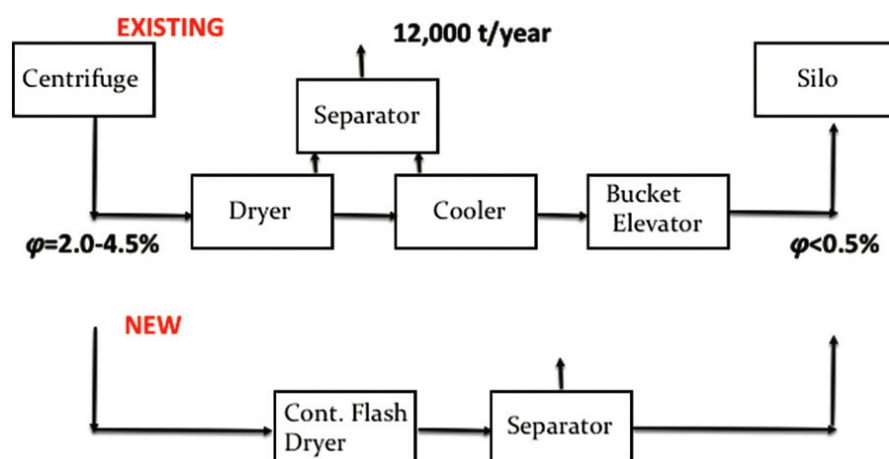

Figure 11: Process simplification for drying of Sulfate crystals with continuous LP flash dryer
**Process simplification:** With the continuous LP flash drying technology an effective process simplification can be realized. As an example, the drying of sulfate crystals is shown. In an existing production process 12,000 tn/year dry sulfate crystals (1-2 mm) were produced in a 24/7 operation. The mechanical solid-liquid-separation was done in a centrifuge and the drying in fluidized bed dryers. Because the product was becoming quite warm during the drying step it had to be cooled in a secondary fluidized bed to avoid caking. The particle transport was done in a high maintenance consuming bucket elevator system. With a continuous LP flash dryer, it was possible to replace the fluidized bed, the cooler, and the bucket elevator (see Figure 11).